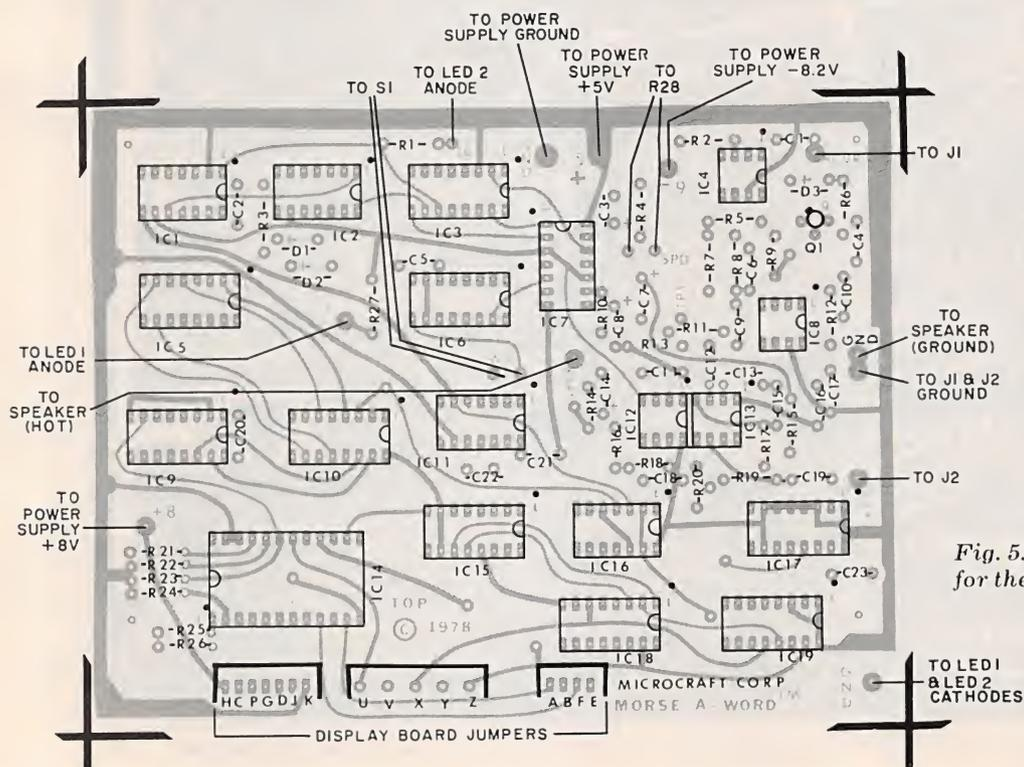
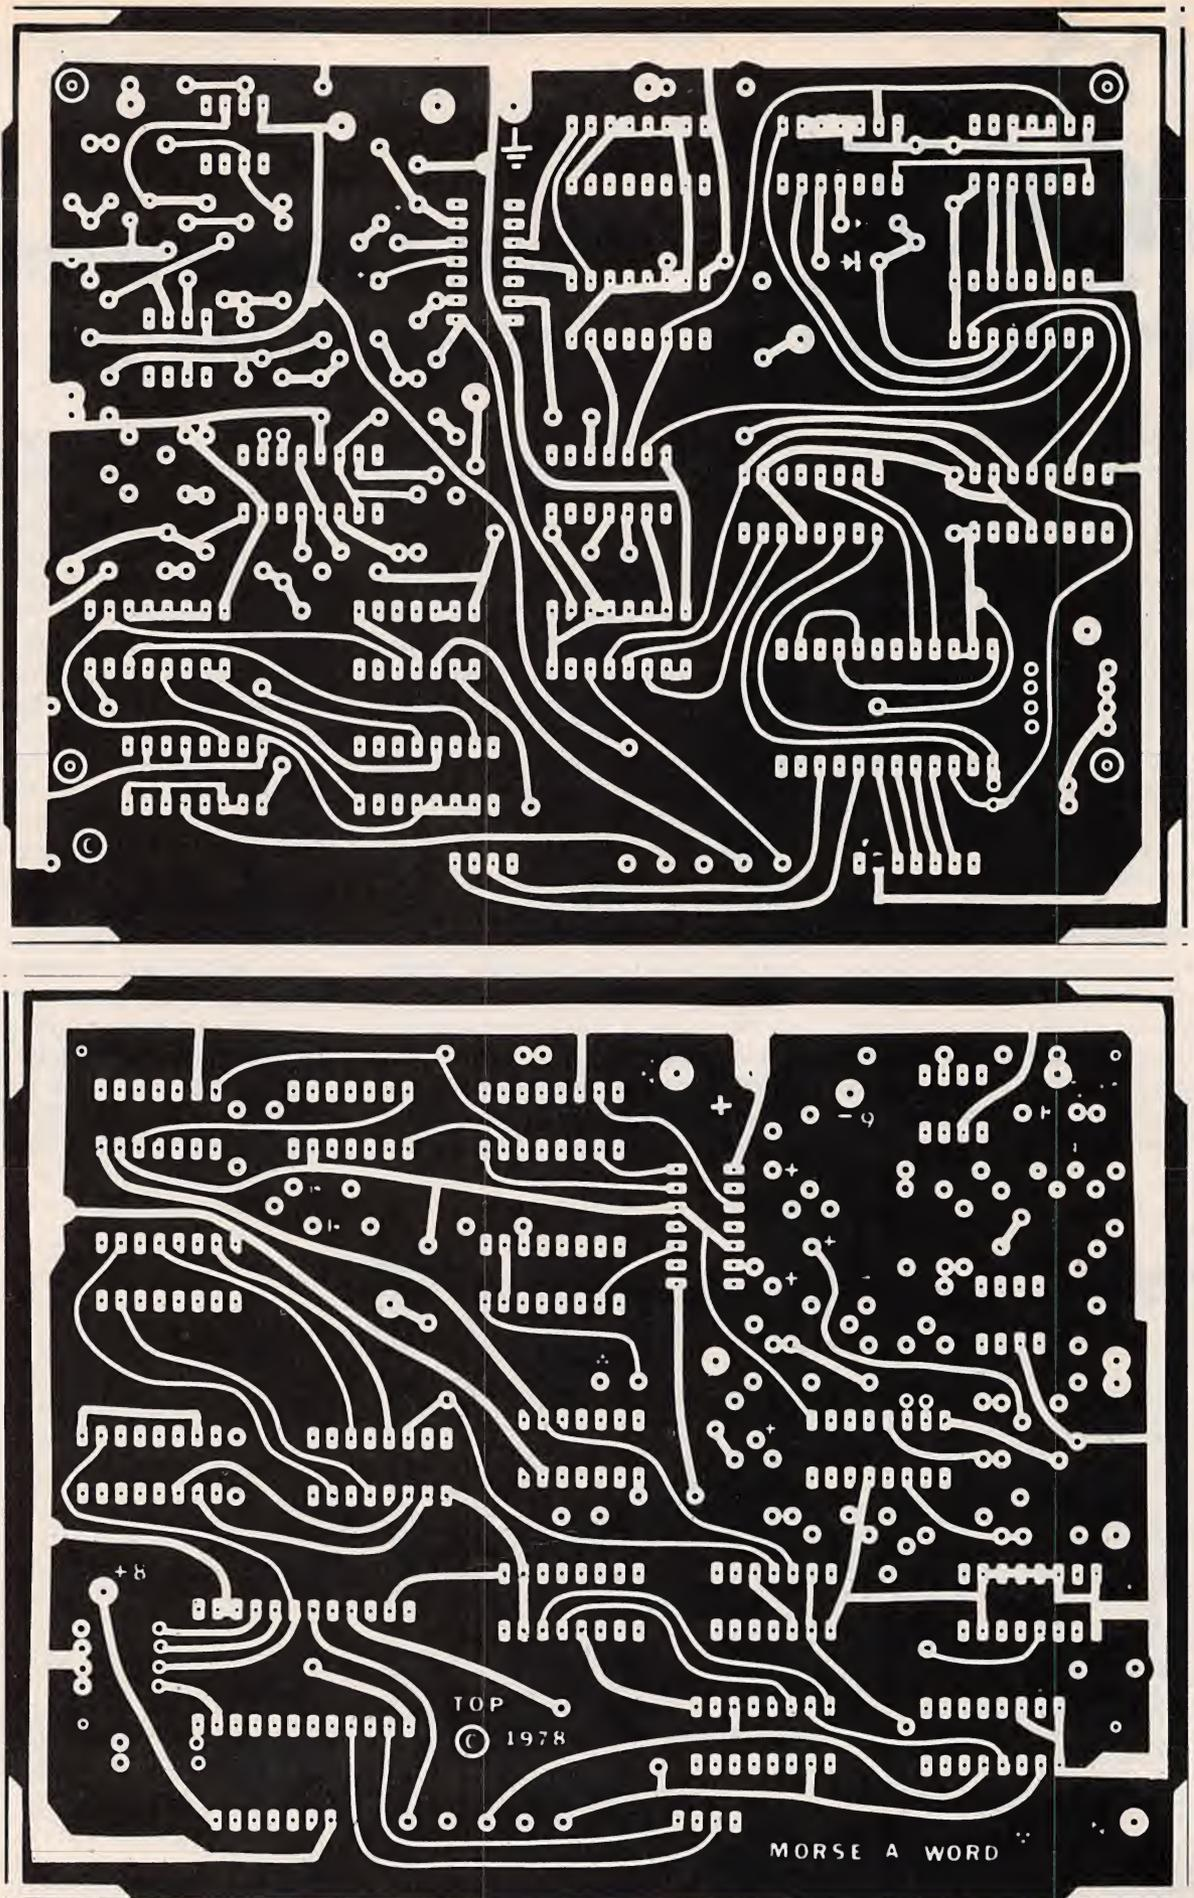
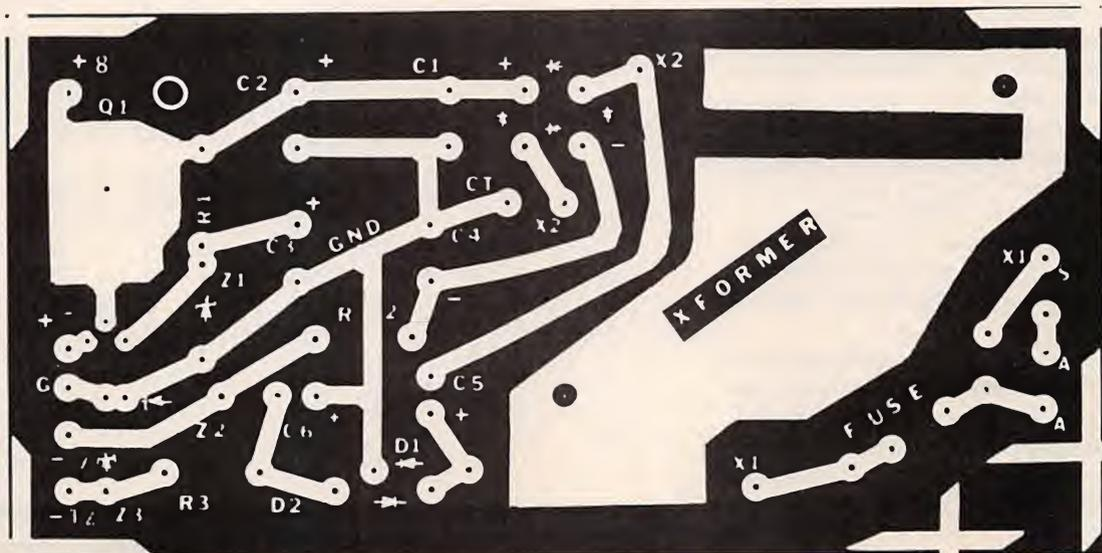

Fig. 5. Parts placement guide for the main circuit board.
Fig. 6. Actual-size etching and drilling guides for the double-sided main printed circuit board.
Fig. 9. Actual-size etching and drilling guide for the power supply board.
**Construction.** The Morse-A-Word is most easily assembled using printed circuit techniques. Three pc boards are required—a main circuit board, display board, and a power supply board. The parts placement guide for the main circuit board appears in Fig. 5. Etching and drilling guides are shown in Fig. 6. Similarly, etching and drilling guides for the double-sided display board are shown in Fig. 7. This board's parts placement guide appears in Fig. 8. Finally, the etching and drilling and parts placement guides for the power supply board appear in Figs. 9 and 10.